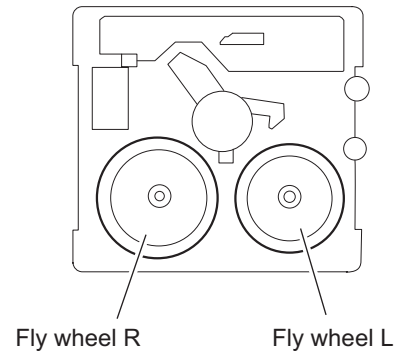

Fig.8
3.4.4 Removing the flywheel (See Fig.8, 9)
3.5.4 Removing the flywheel (See Fig.8, 9)